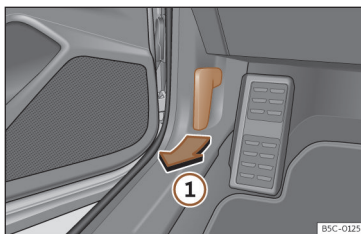

Fig. 206 Release lever in the driver's footwell area.
- Open the door and pull the lever that is underneath the instrument panel >>> **Fig. 206** ①.